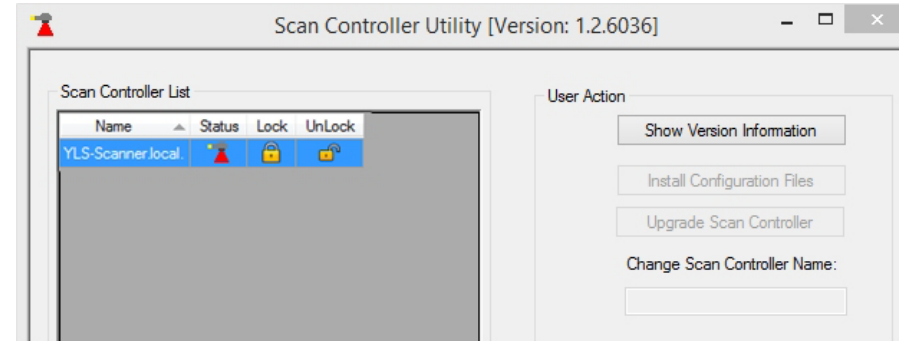

Figure 1
- Click the “Lock” icon for the selected scanner (Figure 1).